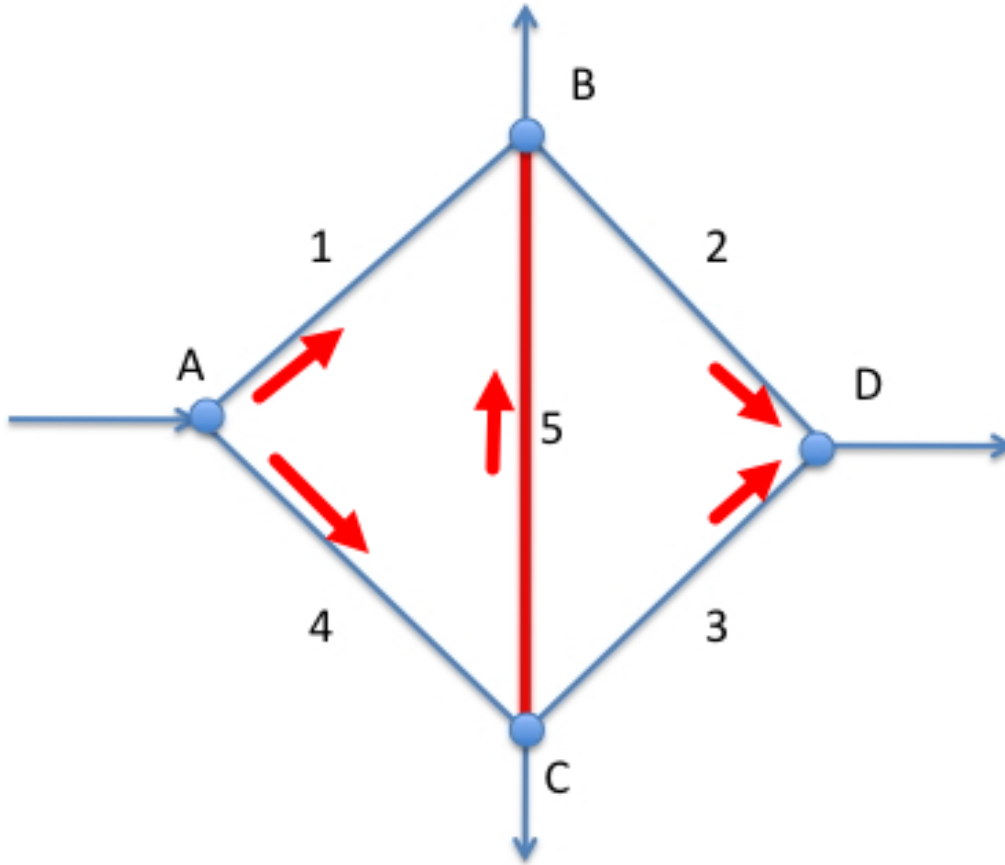

Figure 4: Pipe network
Figure 4 is a pipe network with the following properties:
Table 1: Network properties for Figure 4
5. Referring to Figure 4, the discharge in pipe 5 is closest to
- (A) 0.00 cfs, from Node B to Node C
- (B) 0.15 cfs, from Node C to Node B
- (C) 0.66 cfs, from Node C to Node B
- (D) 0.66 cfs, from Node B to Node C
6. Referring to Figure 4, if the demands at all nodes are those in Table 1, and pipe 2 is decreased to a diameter of 2/12, the discharge in pipe 5 is closest to
- (A) 0.00 cfs, from Node C to Node B
- (B) 0.15 cfs, from Node B to Node C
- (C) 0.30 cfs, from Node C to Node B
- (D) 0.60 cfs, from Node B to Node C
7. Referring to Figure 4, assuming the average friction factor is 0.018, the head loss, in feet, from Node A to Node C (when all pipes are the same diameter) is closest to
- (A) 12 feet
- (B) 25 feet
- (C) 50 feet
- (D) 75 feet
8. Referring to Figure 4, and Table 1 the flow distribution is:
- (A)  $[Q_1, Q_2, Q_3, Q_4, Q_5] = [0.30, 0.15, 0.15, 0.30, 0.00]$  CFS
- (B)  $[Q_1, Q_2, Q_3, Q_4, Q_5] = [0.30, 0.15, 0.15, 0.30, 0.30]$  CFS
- (C)  $[Q_1, Q_2, Q_3, Q_4, Q_5] = [0.30, 0.15, 0.15, 0.00, 0.50]$  CFS
- (D)  $[Q_1, Q_2, Q_3, Q_4, Q_5] = [0.30, -0.15, -0.15, 0.30, -0.60]$  CFS
- (A) A pipe, a node, and a pump
- (B) A pipe, a node, and a valve
- (C) A pipe, a tank, and a pump
- (D) A pipe, a node, and a reservoir